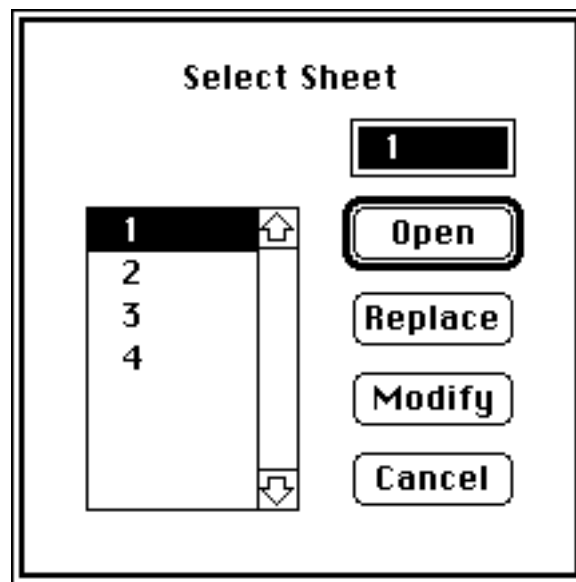

Figure 5-17 Select Sheet Dialog Box
When the Sheet command is invoked, it presents a dialog box containing a list of the sheets already defined, an *Open* button, a *Replace* button, a *Modify* button, and a *Cancel* button. See Figure 5-17.
*Modify* Allows you to modify the sheet size and sheet number. Pressing the *Modify* button displays a list box as shown in Figure 5-17 with the available sheet sizes and an edit field for changing the sheet number. To change the sheet size, select a new size from the list box and click on the *OK* button.